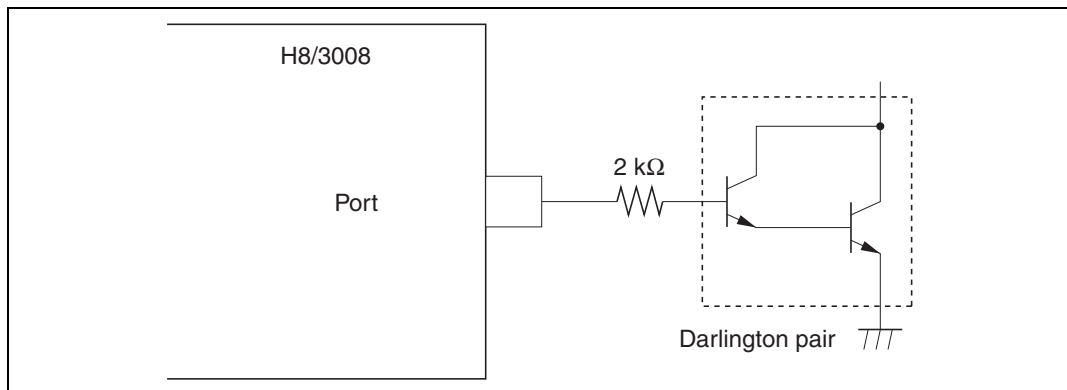

Figure 19.1 Darlington Pair Drive Circuit (Example)
2. When directly driving a darlington pair or LED, always insert a current-limiting resistor in the output line, as shown in figure 19.1.